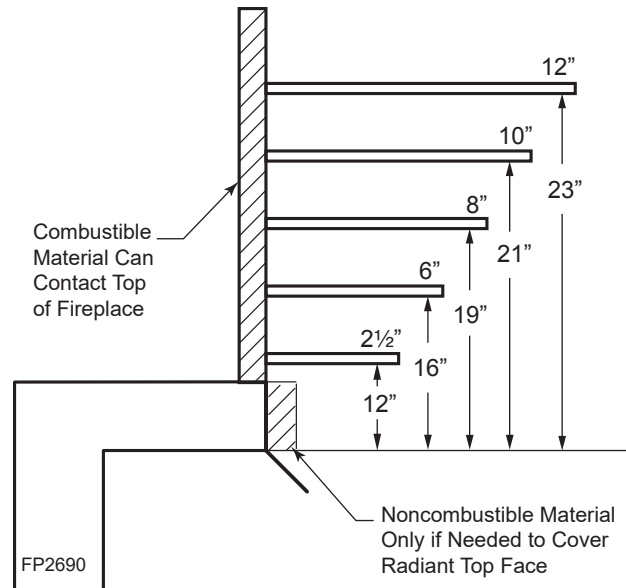
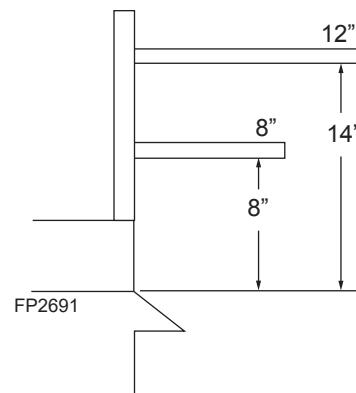

Figure 5 - Mantel Clearances
Figure 6 - Mantel Heights for Wide Profile Canopy
4. **Mantel clearances:** The canopy supplied with the unit must be installed. If a combustible mantel is installed, it must meet the clearance requirements as shown in *Figure 5*. However, if lower mantel height is desired, refer to Page 14, *Figure 6*.